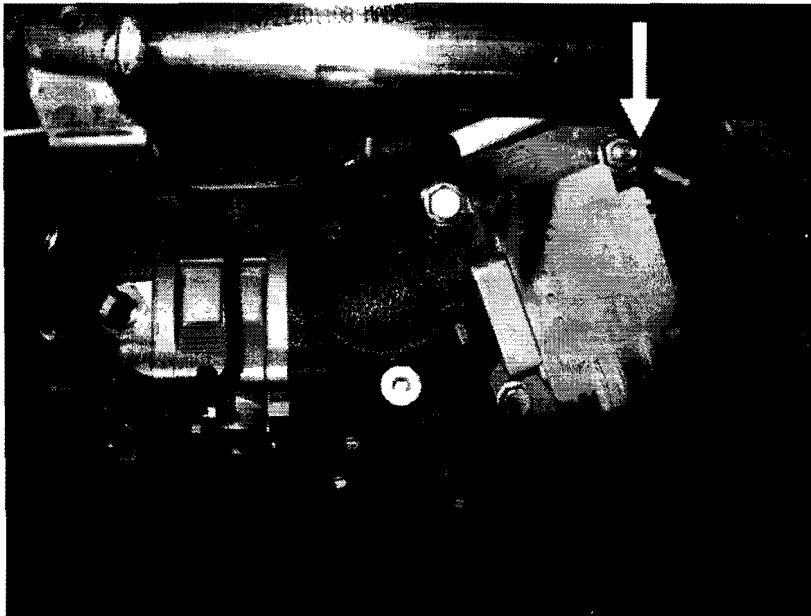

Figure 2 – Negative (Ground) Cable Connection At Grid Heater
7. Disconnect the negative (ground) cable from the grid heater and the vehicle frame and completely remove the cable from the vehicle. See Figure 2.